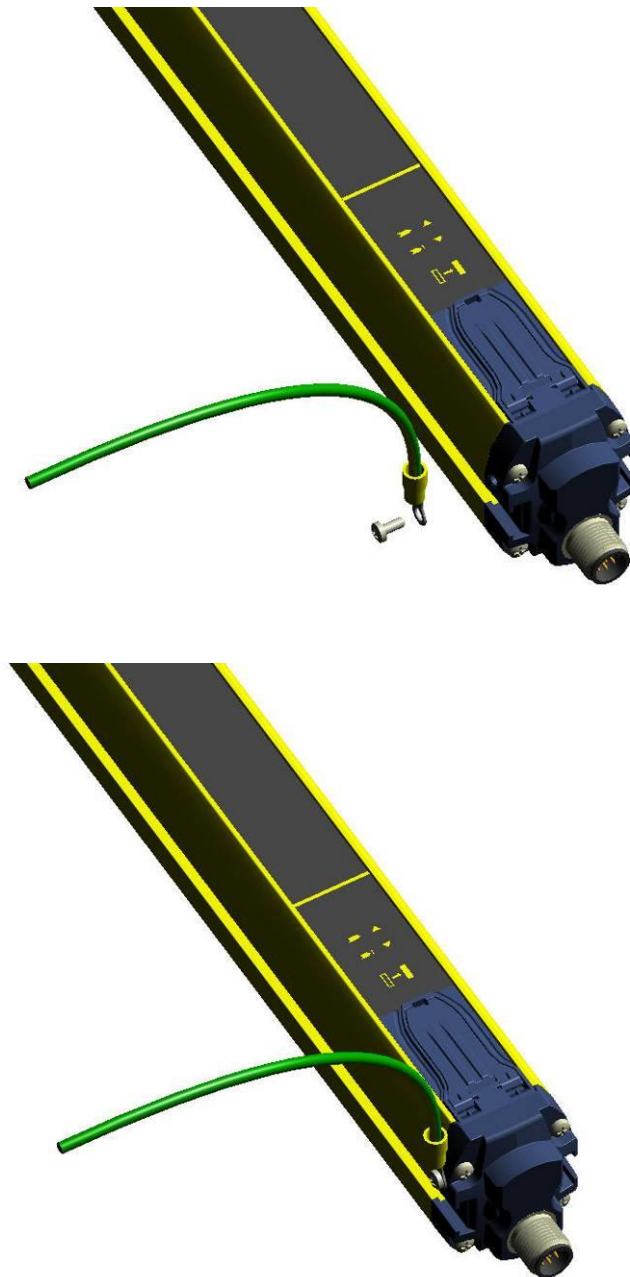

Fig. 13
- The ground connection of the two units depends on the electrical protection class to be guaranteed (see section 9 “Technical Data” for more information). This connection can be carried-out using the screw supplied, which can be put into the proper threaded hole on the cap (see Fig.13).